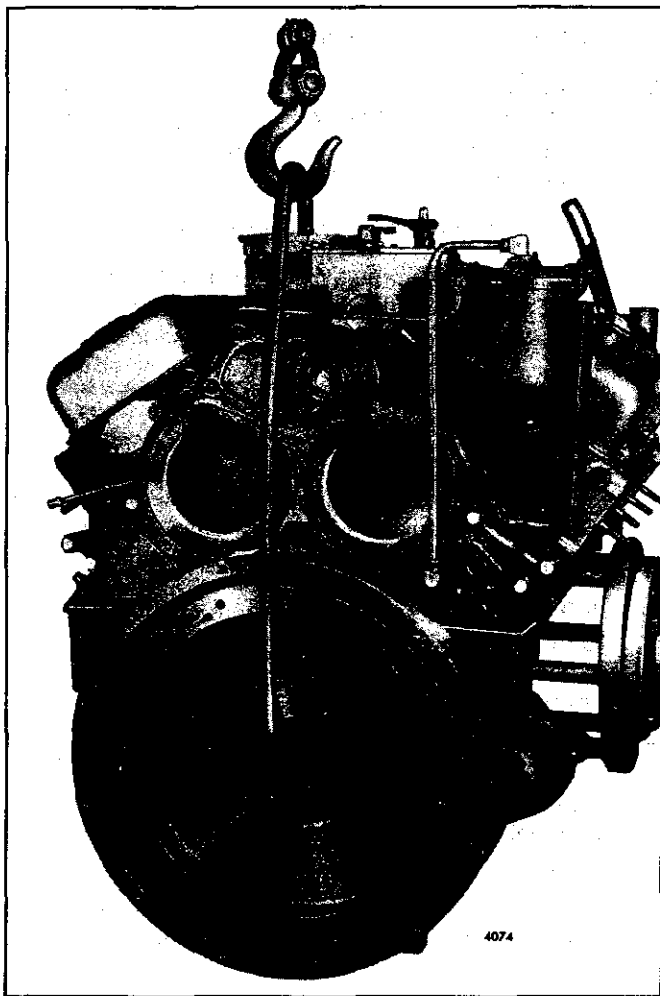

Fig. 1 - Removing Flywheel
- b. Attach flywheel lifting tool J 6361-01 to the flywheel with two 3/8"-16 bolts of suitable length as shown in Fig. 1 or use tool J 25026.